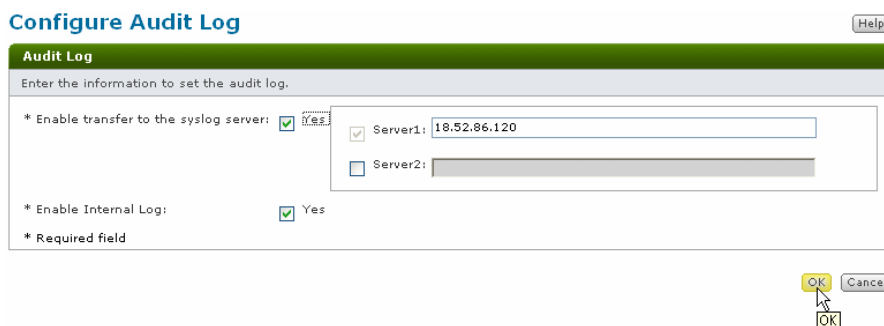

Figure 5-20: Configure Audit Log dialog box
5. Click **Configure Audit Log**. The Configure Audit Log dialog box is displayed. See Figure 5-20.